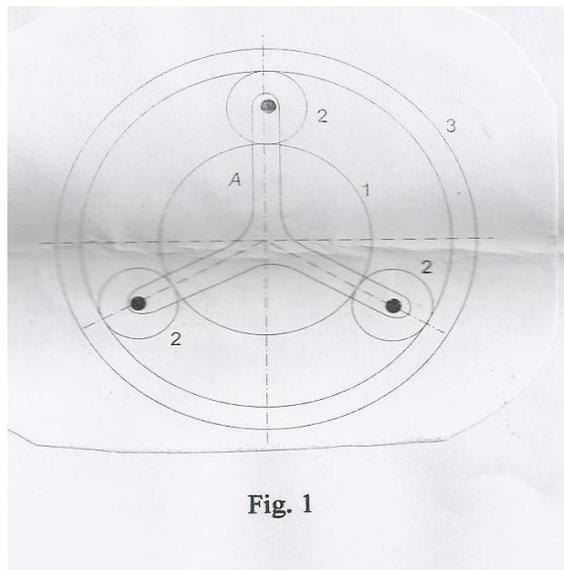

Fig. 1
(b) The pitch circle diameter of annular gear in the epicyclic gear train shown in Fig.1 is 425 mm and the module is 5mm. When the annular gear 3 is stationary, the spindle A makes one revolution in the same sense as the sun gear 1 for every 6 revolutions of the driving spindle carrying the sun gear. All the planet gears are of the same size. Determine the number of teeth on all the gears. (10)